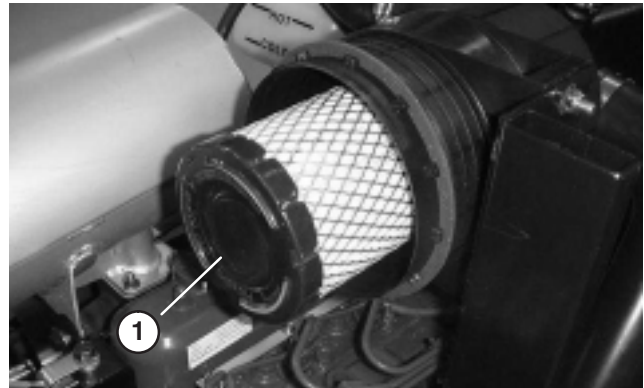

Figure 30
2. Gently slide filter (Fig. 30) out of air cleaner body to reduce the amount of dust dislodged. Avoid knocking filter against air cleaner body.